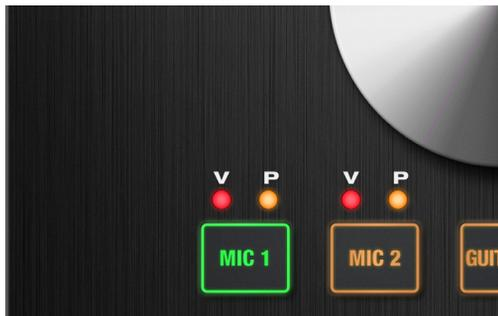

Figure 4-2: The phantom power (V) and pad (P) LEDs for the mic inputs
- 3 Push the corresponding *MIC 1* or *MIC 2* button on the Track16 to select the input (Figure 4-2).
5 The red “V” LED illuminates (Figure 4-2).